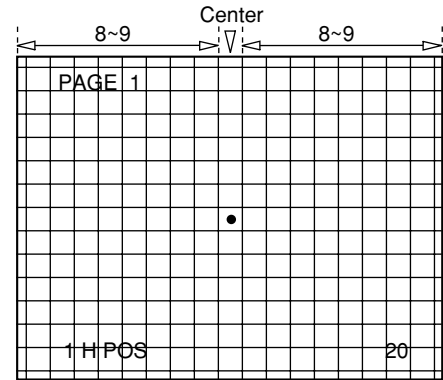

Fig.1-1
- Using the volume keys on the jig remote controller, adjust the dot mark in the centre on the crosshatch screen to the exact centre position allocating an equal number of squares on both left and right sides of the dot. (Fig. 1-1)